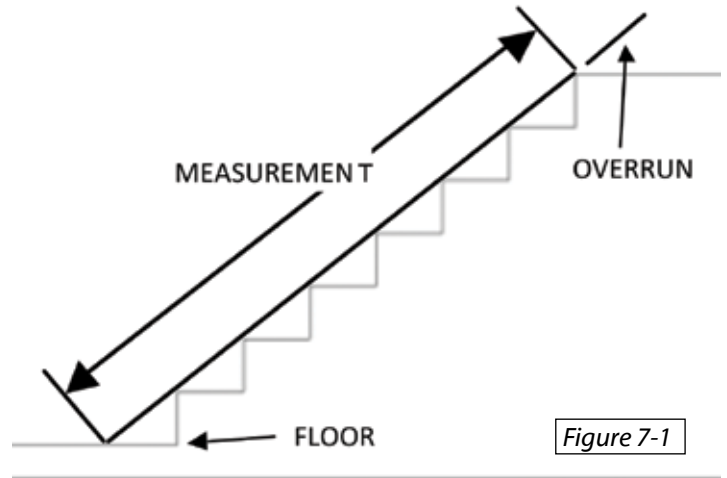

Figure 7-1
1. Measure from the nose of the top step to the point on the landing where the rail will rest [Figure 7-1]. Enter this measurement into BOX 1 of the Rail Length Worksheet below.